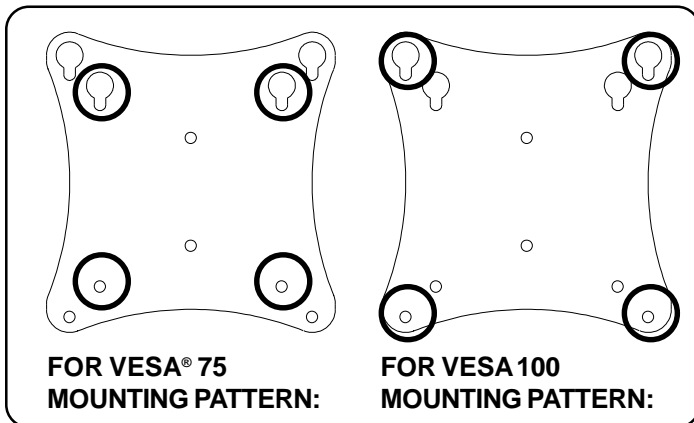

fig. 2.1
Insert two M4 x 12 mm screws (A) into top two holes of screen, leaving approximately 1/4" of exposed thread. Hook screws onto keyslots of adapter plate as indicated in figures 2.1 and 2.2.
**\*Note:** If hole pattern is in a pocket, insert two M4 x 20 mm screws (B) with two retaining spacers (C) into top two holes of screen as indicated right.